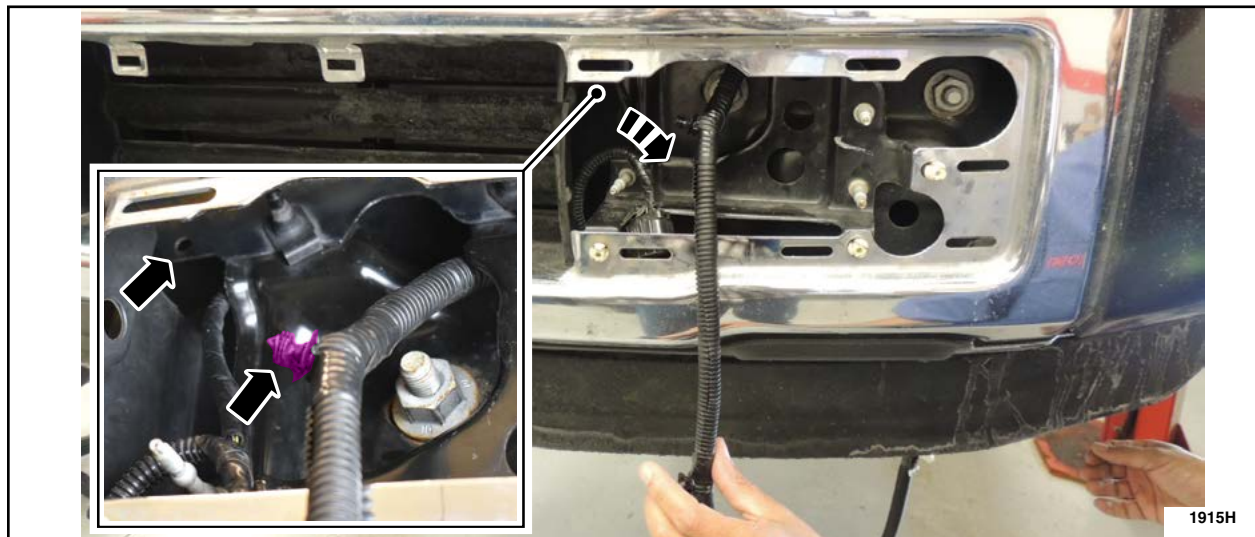

FIGURE 12
13. From the left front side of the vehicle, position the block heater cable out of the grill shutter air diverter slot and detach the retainer holding the block heater cable to bumper. See Figure 12.
28. From the left front side of the vehicle, attach the retainer holding the block heater cable to bumper as shown in Figure 12.